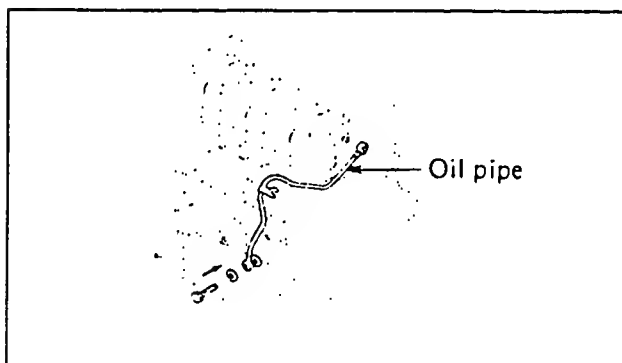

Figure 14. Oil Pipe Installation
4. Install the oil pipe (Figure 14).